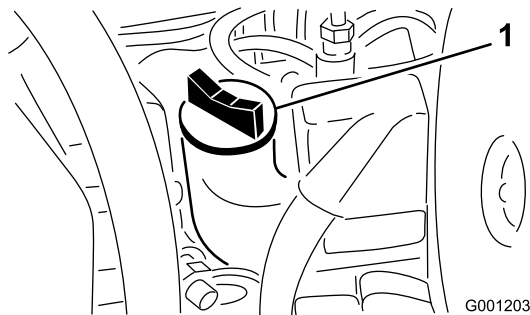

Figure 23
5. If the oil level is below the Full mark, remove the fill cap (Figure 23) and add oil until the level reaches the Full mark on the dipstick. **Do not overfill.**